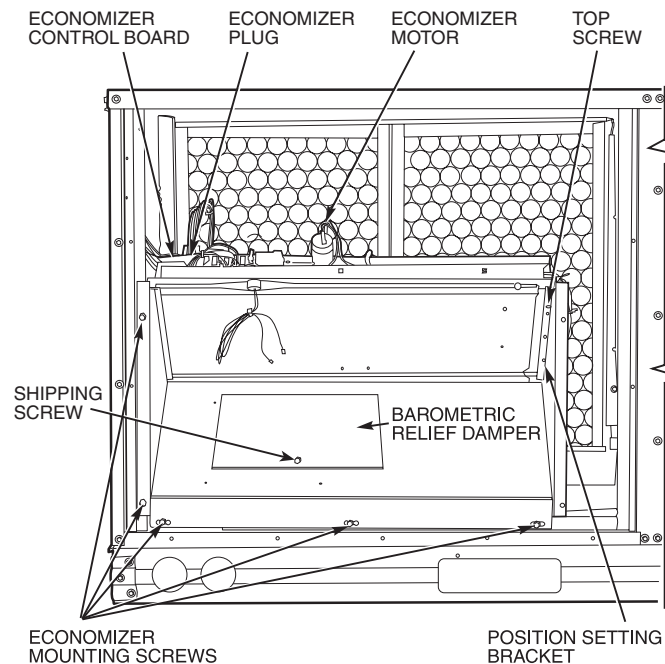

Fig. 21 — Durable Economizer Installed in Unit
- a. Slide economizer into unit and secure with screws. See Fig. 21.
7. Insert economizer plug into economizer harness. Remove tape from barometric relief damper. See Fig. 21.